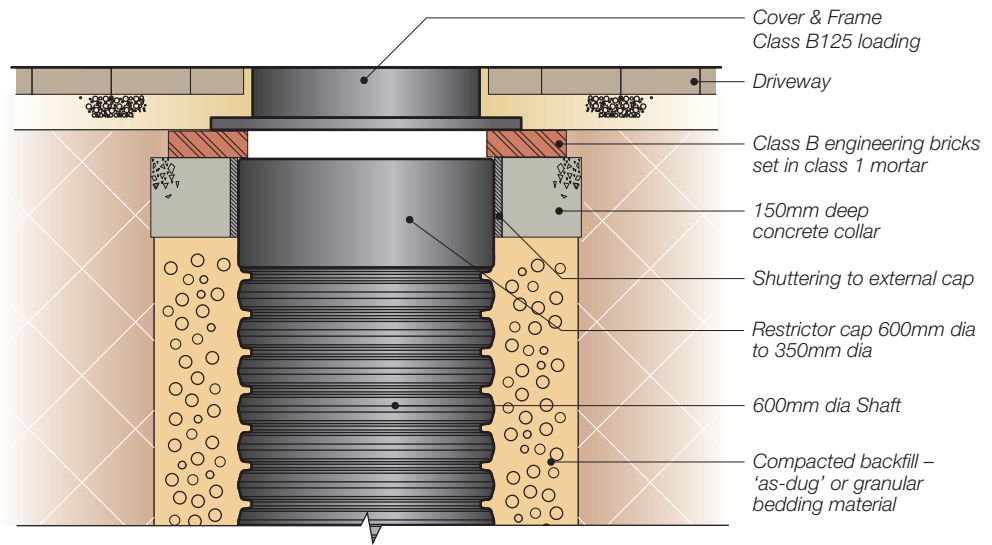

Fig.6. Installation detail for B125 loading: paved areas with limited traffic load; and for D400 loading: roads with heavy traffic loads
- According to required loading application, position the appropriate Cover and Frame on top of slab. (See **Fig.6**)